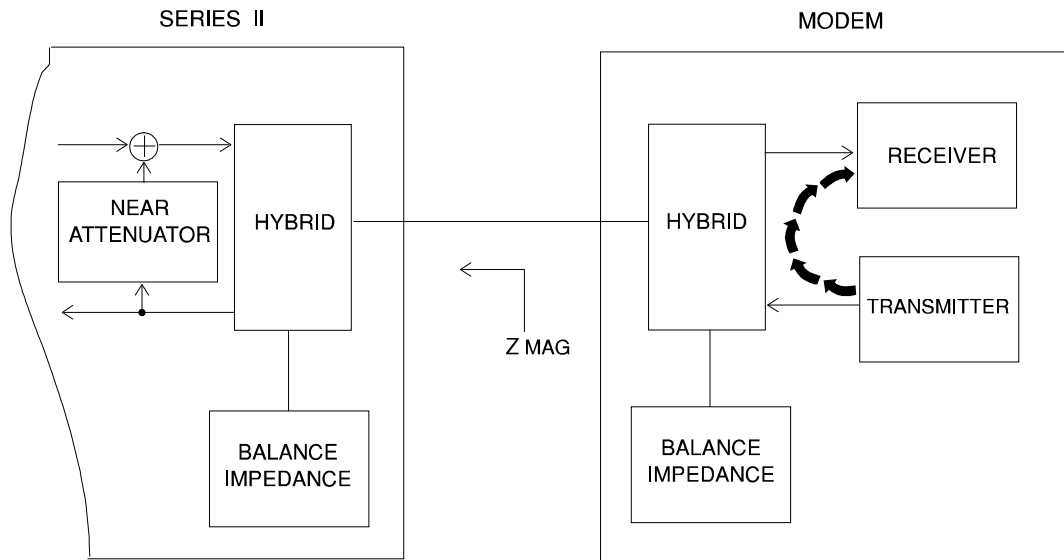

Figure 2-30. Near Talker Echo without Loop
The Series II provides near end talker echo simulation for station A and station B. Station A (B) near talker echo is illustrated in Figure 2-30 and is the reflection of the modem A (B) transmit signal that occurs at modem A (B). This reflection is caused by the impedance mismatch between the modem's hybrid balance impedance and the input impedance (Zmag) of the Series II station A (B) 2-wire interface.